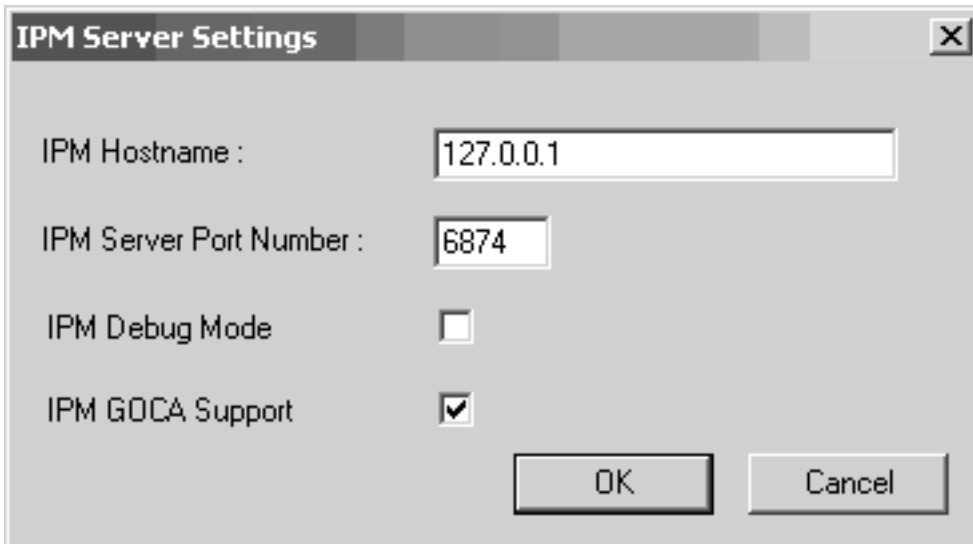

Figure 4. IPM Server Settings dialog
6. From the IPM Server Settings pop-up dialog (see Figure 4 on page 28), specify either the fully-qualified host name or the IP address of the InfoPrint Manager server to which you will be sending jobs. The **IPM Hostname** field defaults to showing the loop back address and must be changed.